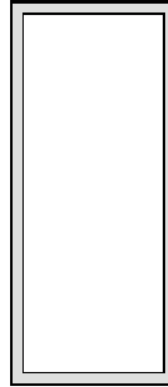

Figure 27. Solder Paste Application on Pins
4. The aperture opening for the signal pads should be between 50–80% of the QFN pad area as shown in Figure 27.